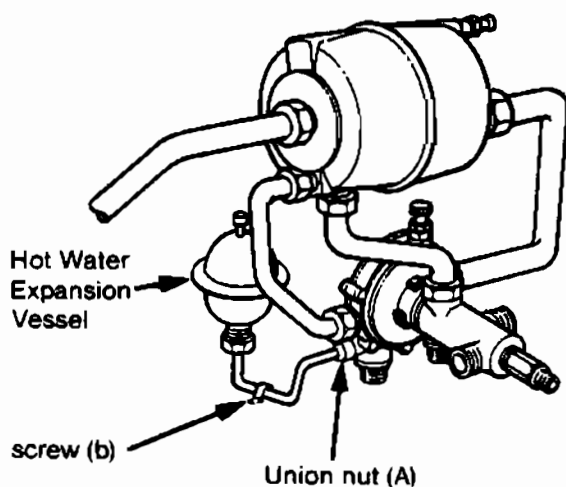

Fig. 42
Refer to fig 42*
- 8.18.3 Slacken screw (b) (fig 42) and disengage bracket from pipe (do not remove screw or bracket).